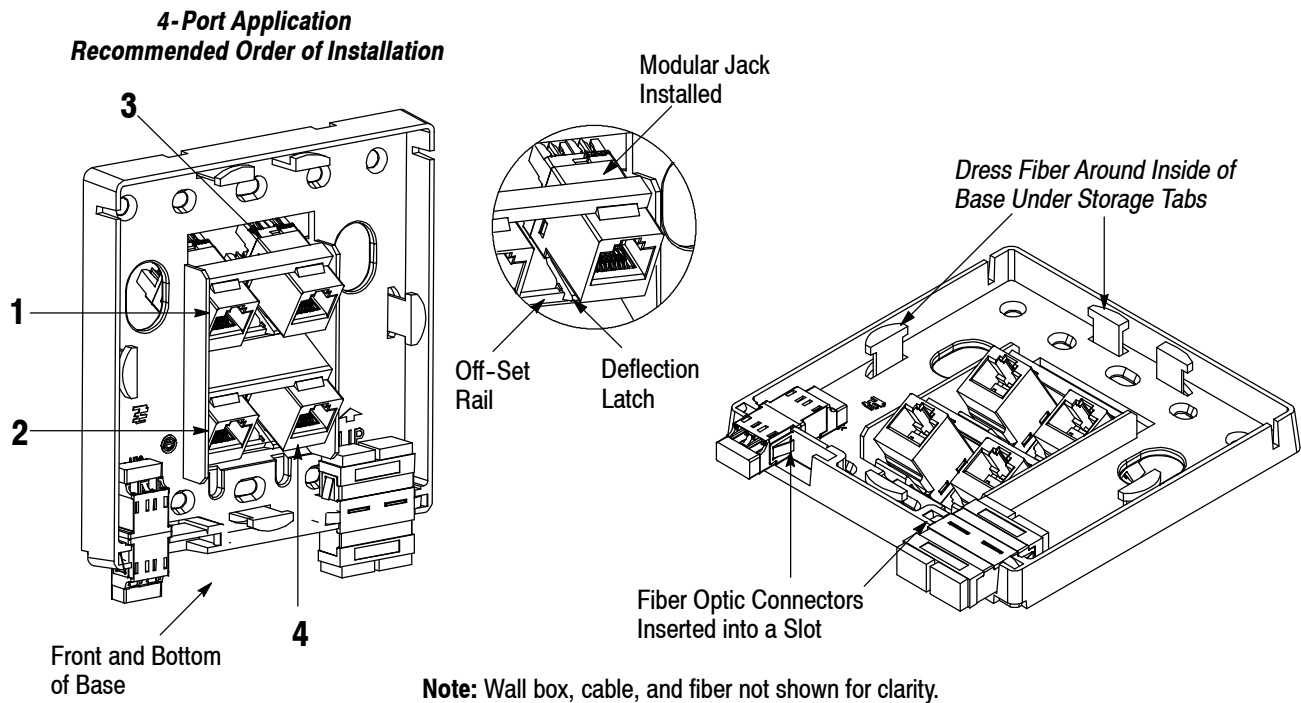

Figure 2
2. Refer to Figure 2, and install each modular jack or multimedia insert as follows:
For a 4-port application, refer to Figure 2 for recommended order of installation.
2. Dress the fiber around the inside of the base under the storage tabs. See Figure 2.
4. Insert each fiber optic connector into a slot at the bottom of the base. See Figure 2.